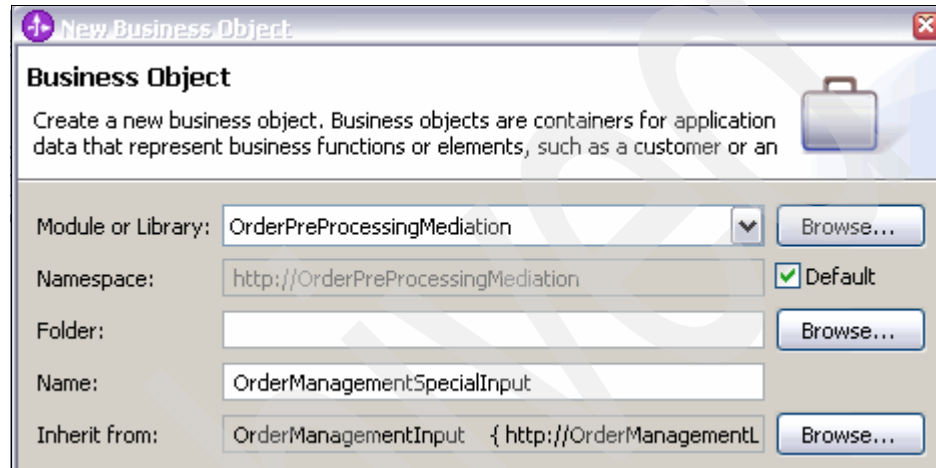

Figure 4-11 `OrderManagementSpecialInput` inherits from `OrderManagementInput`
1. Select **File** → **New** → **Business Object** to start the New Business Object wizard, shown in Figure 4-11.